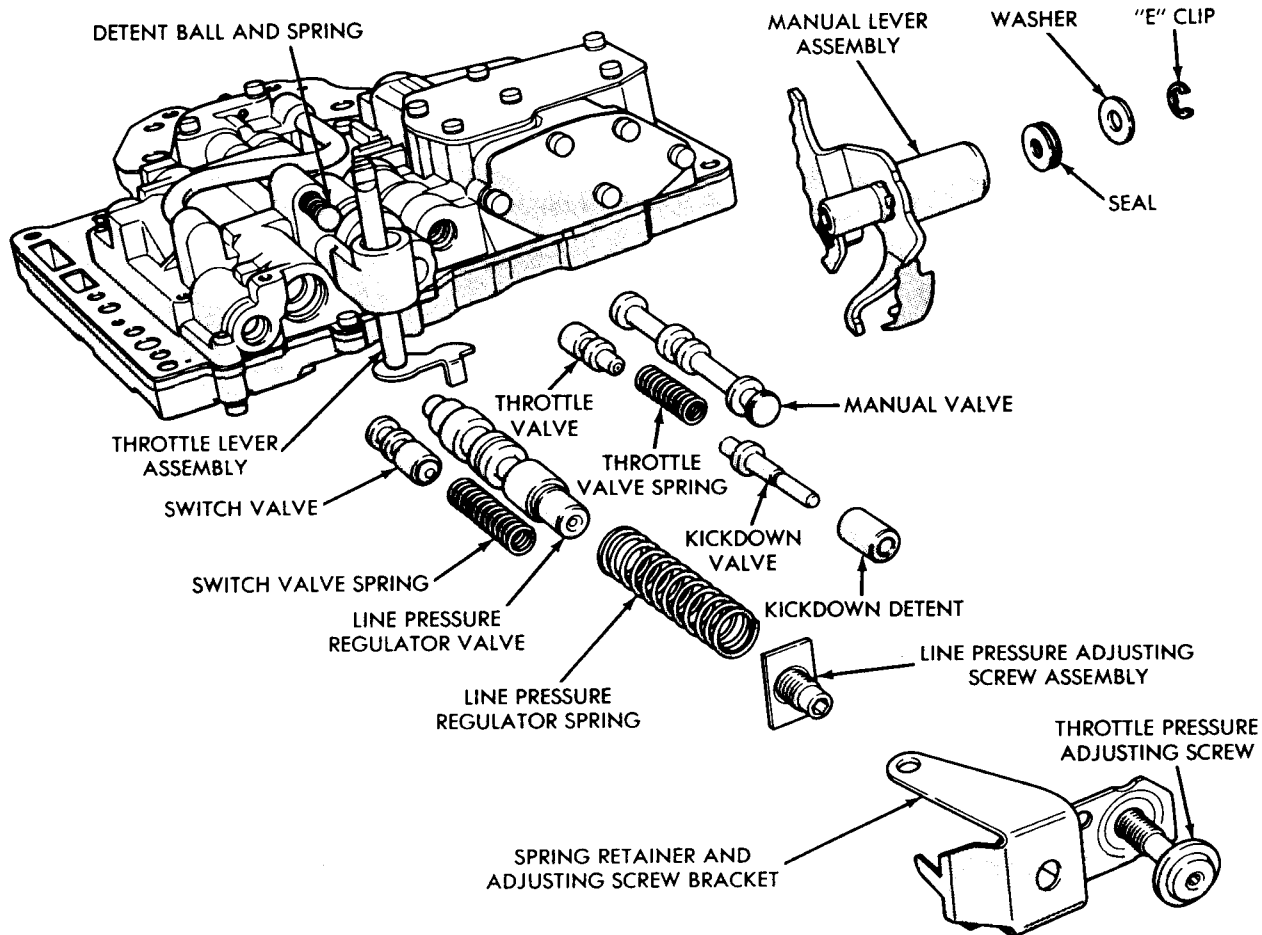

Fig. 2—Pressure Regulators and Manual Control
(1) Remove "E" clip and washer from throttle lever shaft (Fig. 2). Remove any burrs from shaft, then while holding manual lever detent ball and spring in their bore with Tool C-3765 or similar tool, slide manual lever off the throttle shaft. Remove the detent ball and spring.
(2) Slide manual valve out of its bore.
(3) Slide out the kickdown detent sleeve, kickdown valve, throttle valve spring, and the throttle valve.